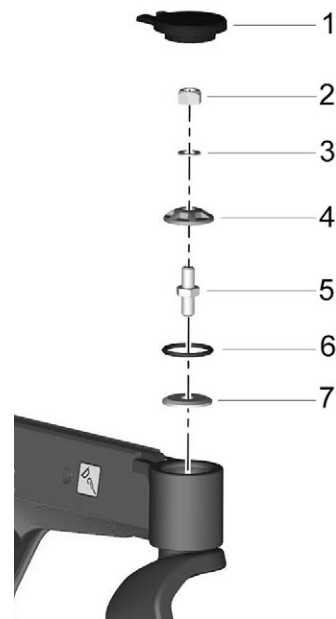

Figure 51. Friction brake.
2. Remove the cover (1) on the link arm. See fig 51.
3. Remove the nut (2) and washer (3). See fig 51.
4. Remove the adjustment unit (4) and o-ring (6).
5. Remove the friction brake screw (5) and the friction brake plate (7).
2. Apply Thread Lock Loctite 243 on the lower part of the friction brake screw (5).
3. Assemble the friction brake plate (7) and the friction brake screw (5), tighten the screw using a torque wrench. **Tightening torque: 24Nm / 17.7 Ft/lbs.**
4. Lubricate the o-ring (6) and friction brake plate (7) with Friction brake grease, order no: 1820405.
5. Assemble the o-ring (6) on the friction brake plate (7).
6. Lubricate the adjustment unit (4) with Friction brake grease, order no: 1820405
7. Assemble the adjustment unit (4) by fitting it onto the friction brake screw (5), make sure it is fitted properly on the hex head.
8. Assemble the washer (3) and the lock nut (2).
11. Fit the cover (1) on top of the link arm. See fig 51.